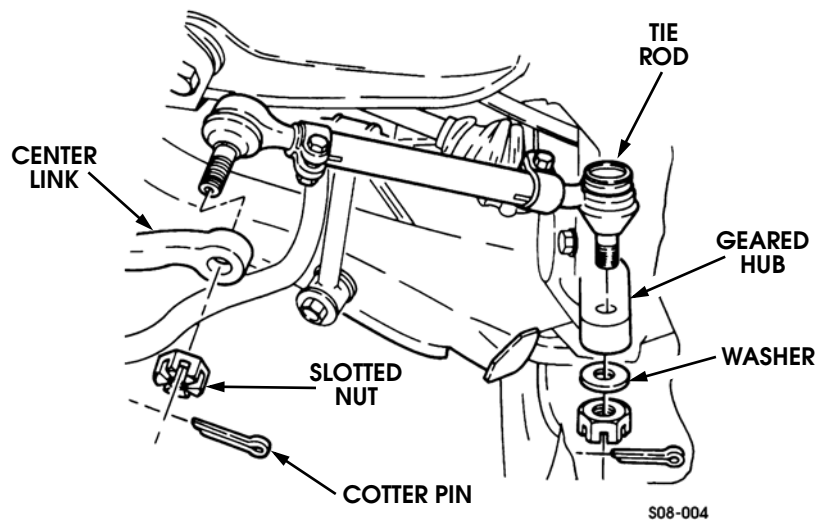

Figure 3: Tie rod replacement.
2. Remove the cotter pins and slotted nuts from the center link end and the geared hub end of the tie rod (See Figure 3).